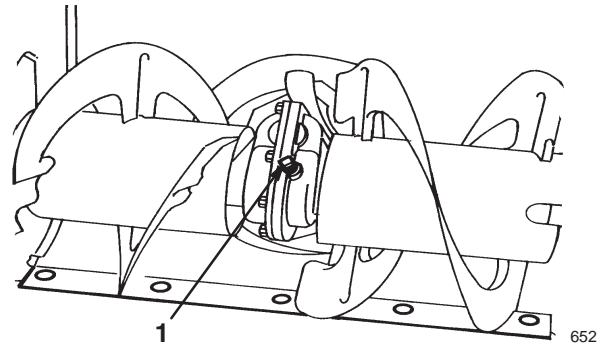

Figure 21
4. Clean the area around the pipe plug (Fig. 21).
5. Remove the pipe plug from the gearbox (Fig. 21).